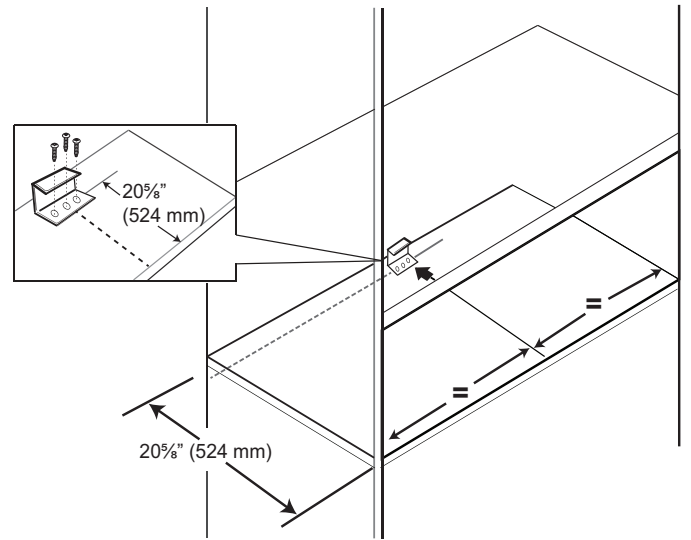

Figure 8: Anti-tip Bracket Location
3. Position the anti-tip bracket on the floor of cabinet opening 20 $\frac{5}{8}$ " (524 mm) from the cabinet edge and spaced equally centered for model type, as *shown in Figure 8*.
- Secure with three (3) 3/4" (3.175 mm) Phillips head screws (included).